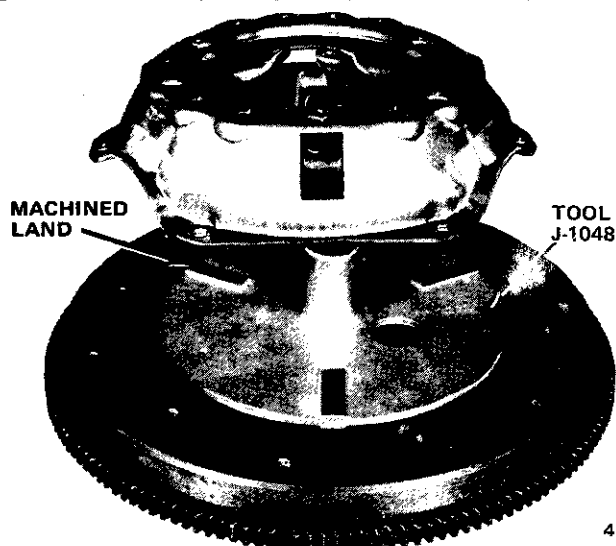

Fig. 2A-7 Mounting Gauge Plate J-1048
- (1) Install Gauge Plate Tool J-1048, on flywheel in position normally occupied by driven plate (fig. 2A-7).